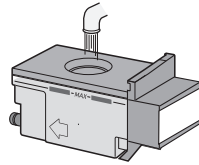

Figure 2
3. Fill the water tank with **room temperature water suitable for drinking (filtered) through the lid to the MAX mark each time you begin to cook.** (Figure 2) Do not fill the water tank over the MAX mark.